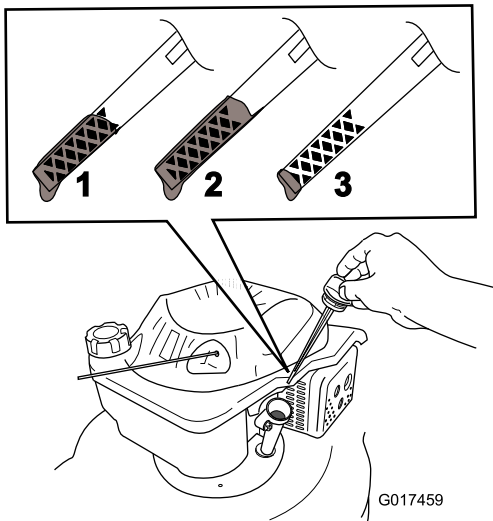

Figure 6
2. Remove the dipstick (Figure 6) and pour about 3/4 of the crankcase capacity of oil into the oil-fill tube.
5. Remove the dipstick and read the oil level on the dipstick (Figure 6).